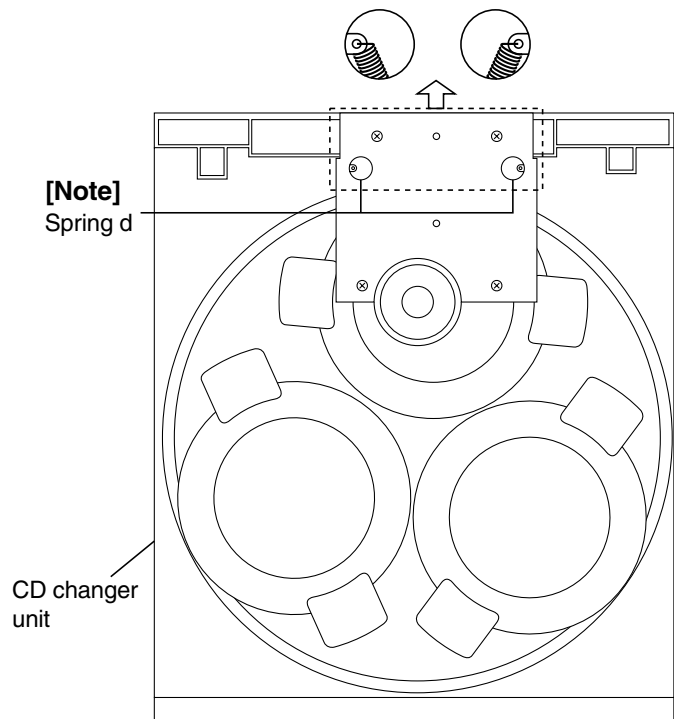

Fig.14
■ Removing the CD changer mechanism assembly (See Fig.14 to 16)